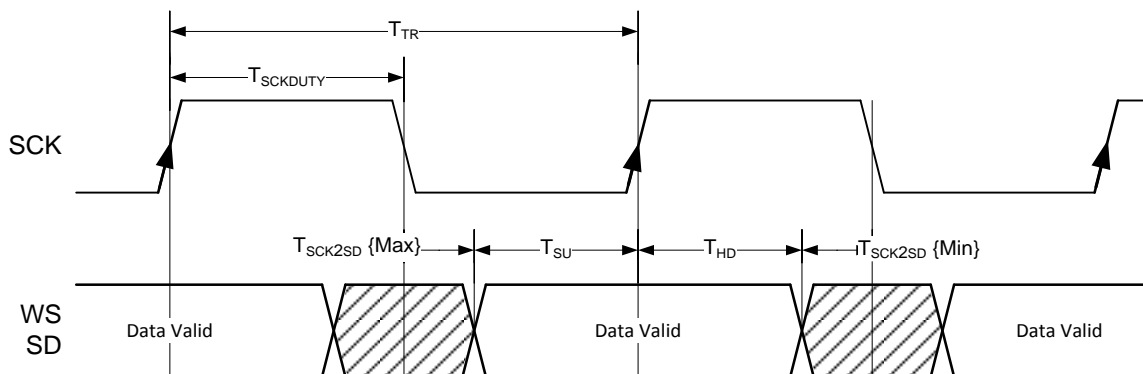

Figure 5.6. I2S Output Timing
**Note:** Refer to Figure 5.6 on page 24.